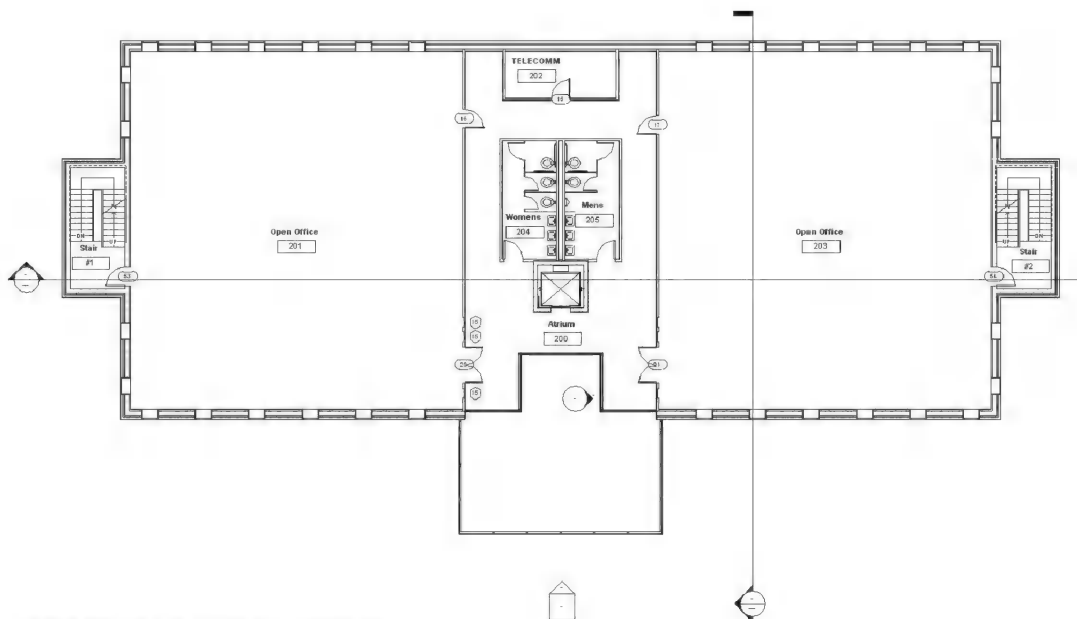
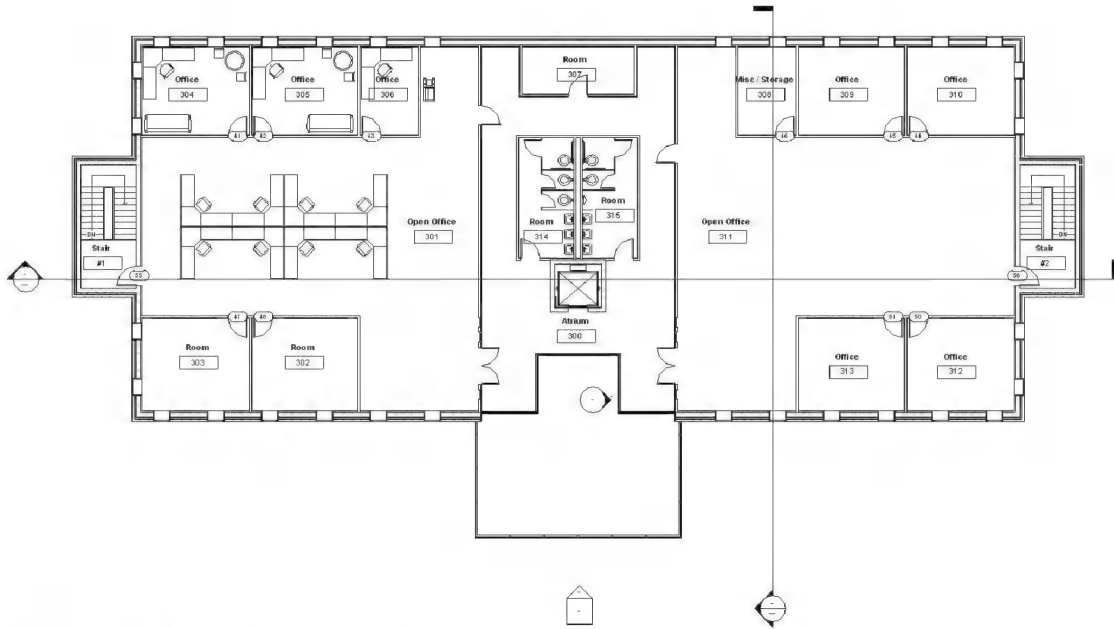

FIGURE 12-1.2 Level 2 – Room tags
FIGURE 12-1.3 Level 3 – Room tags
8. Add Room/Tags to Levels 2 and 3. The numbering for Level 2 should start with 200 and Level 3 should start with 300. (For Level 2, see Figure 12-1.2; for Level 3, see Figure 12-1.3.)